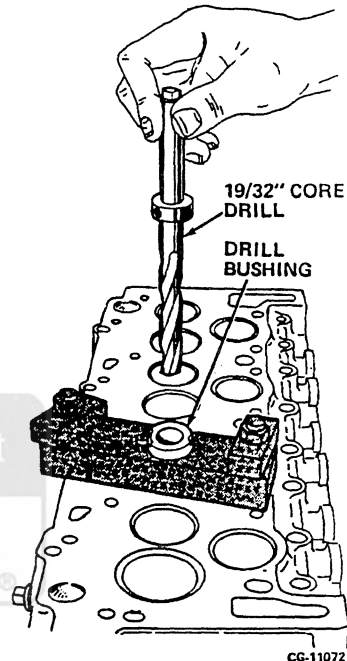

**Figure 3.34. Drilling Cast Valve Guide from Cylinder Head; Using Drive Adapter and 1/2" Drill**
5. Using a 1/2" electric drill with the drive adapter installed in the chuck, drill out the cast valve guide, refer to Figure 3.34.